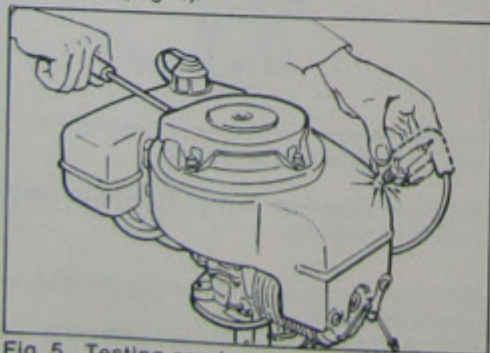

Fig. 5 Testing spark at plug
- Remove spark plug and re-connect high tension lead to plug terminal, earth plug body to engine and with control lever in start position, pull sharply on starter rope and observe spark, at plug points this should be strong and blue in colour (Fig. 5).